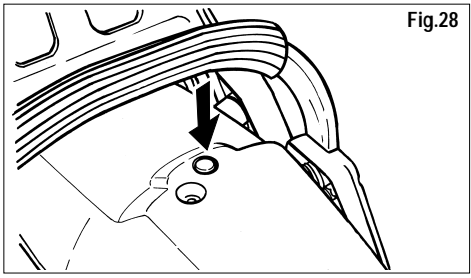

Fig.28
- 4) Press the decompression valve opening button fully down to reduce the force required to pull the starting cable (see fig. 28).